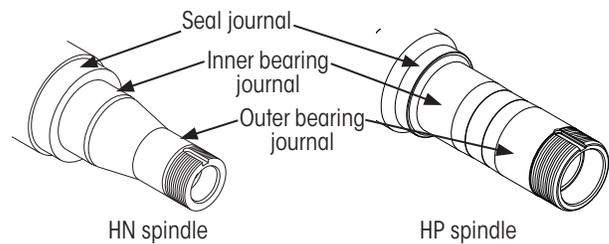

Figure 9: Spindle seal & bearing journals
2. **Inspect** machined spindle journals (Figure 9) for nicks, scratches, burrs or marks. If needed, use crocus cloth or emery cloth to repair any damaged areas.
1. Taking care not to damage the seal, gently slide the hub onto spindle until the seal is against the spindle seal journal (Figure 9).